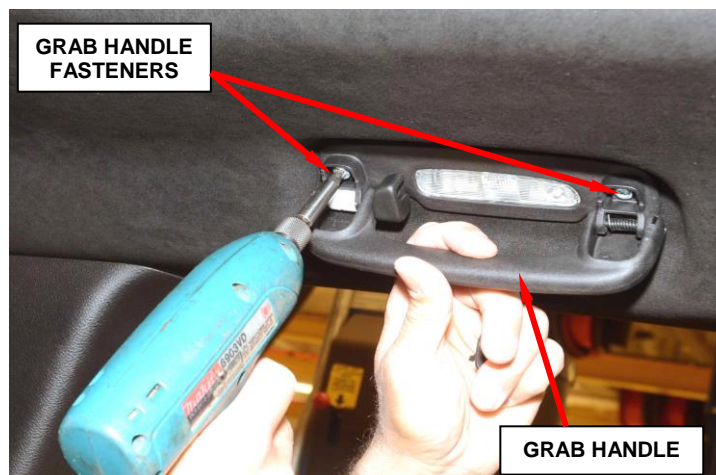

Figure 6 – Rear Overhead Grab Handle
14. Remove and save the right and left side rear overhead grab handles (Figure 6).
48. Install the right and left side rear overhead grab handles (Figure 6).